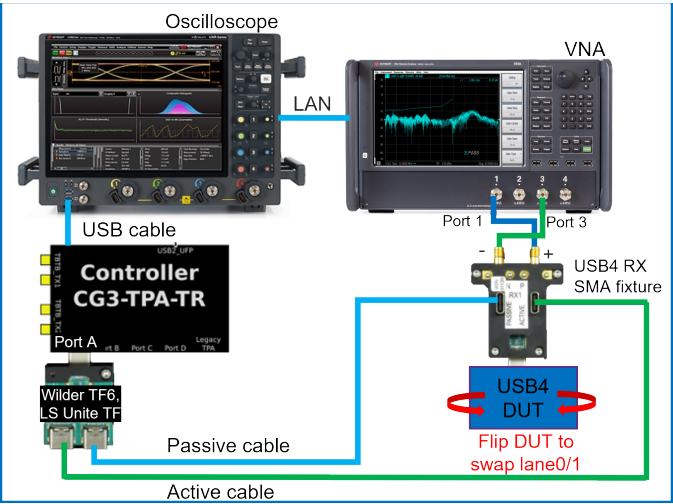

Figure 121 Tx Return loss test setup with Rx SMA test fixture
- 1 For the physical connections between the DUT & the Oscilloscope, see the connection diagrams in Figure 121 and Figure 122.